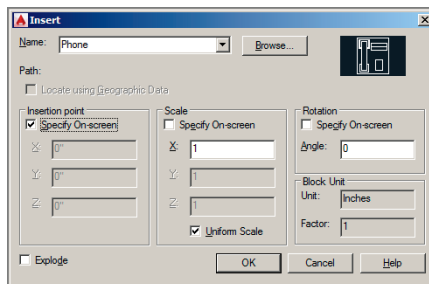

FIGURE 7.19 Inserting a phone block
3. Type **I** (for Insert), and press Enter. Select Phone in the Name dropdown list. Deselect Specify On-Screen in the Scale and Rotation sections of the Insert dialog box and click OK (see Figure 7.19).